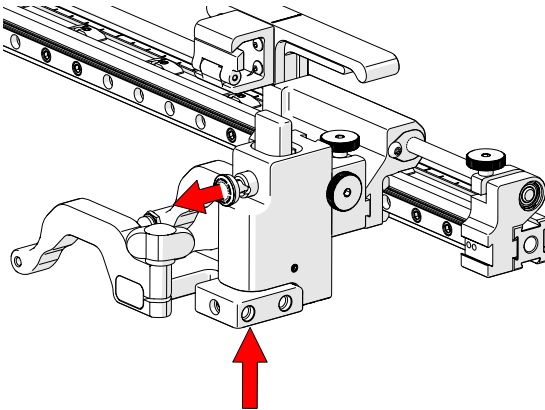
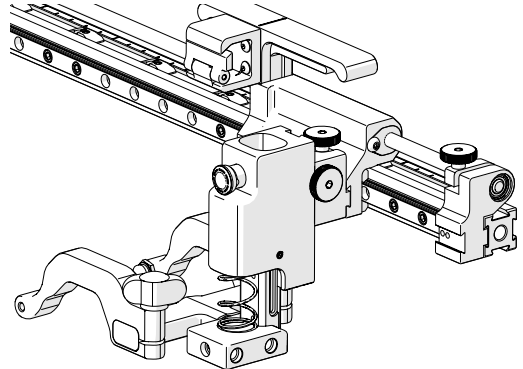

Fig. 40 - Press up and pull latch
Fig. 41 - Lowered toward scan surface
1. Gently lift the heavy duty probe holder and simultaneously pull the latch (Fig. 40). This action will unlock the probe holder. Slowly lower the probe holder towards the scan surface (Fig. 41).